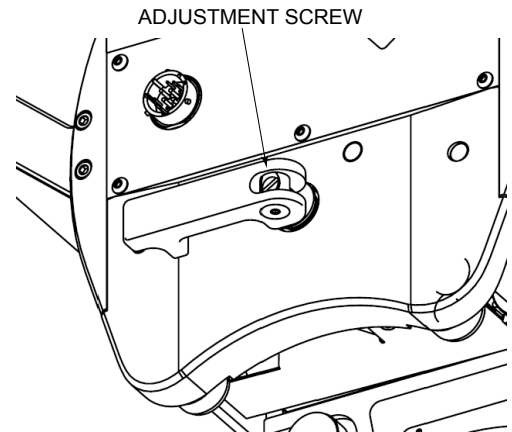

FIGURE 21 - Adjustment Screw
3. Once the set screws have been loosened, adjust the tension using a flat-head screwdriver to turn the adjustment screw – see **FIGURE 21 - Adjustment Screw**.